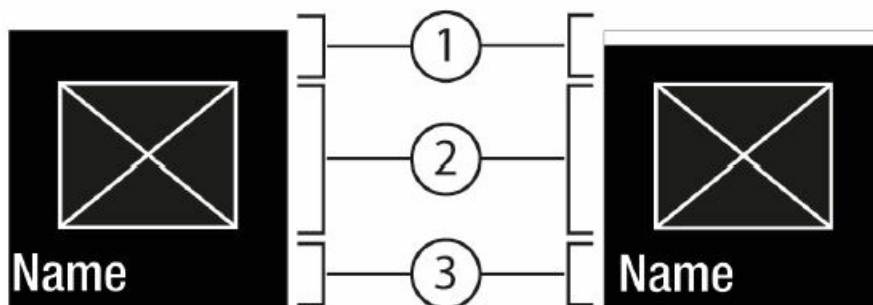
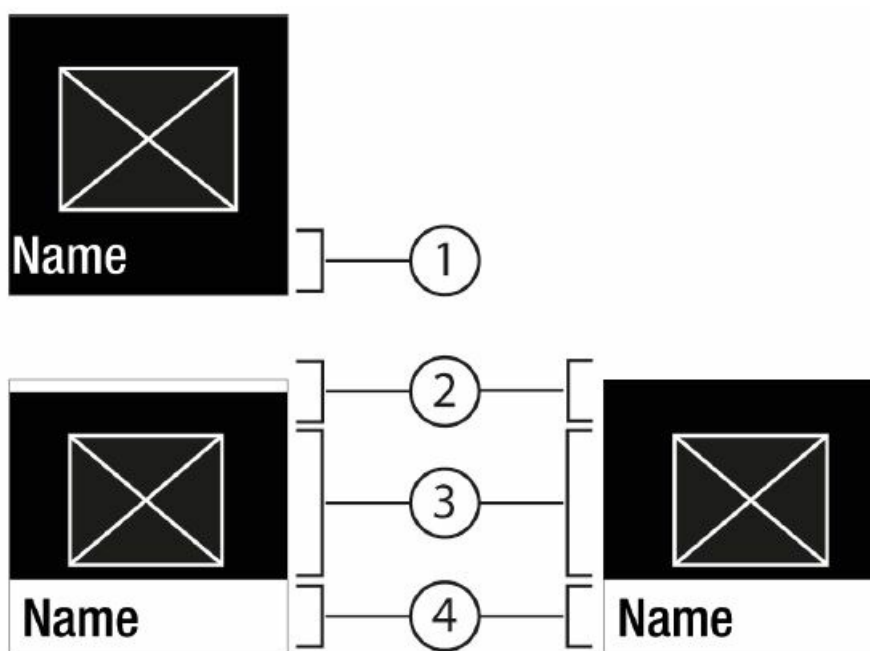

Fig. 6
Fig. 7
- Press Confirm Fig. 5 (2) to go to the submenu Fig. 7 (4).
- Set new level: Press Confirm Fig. 5 (2) to select a deselected value Fig. 6 (1).
- Back to menu: Press Confirm Fig. 5 (2) to select the selected value Fig. 6 (2).
- Status: on Fig. 6 (1) appears briefly in the submenu Fig. 7 (4).